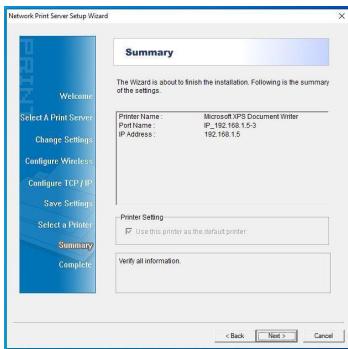

Figure 10
12. At the **Confirm Settings** screen, check for any configuration errors. Select **Next**. (Figure 10)